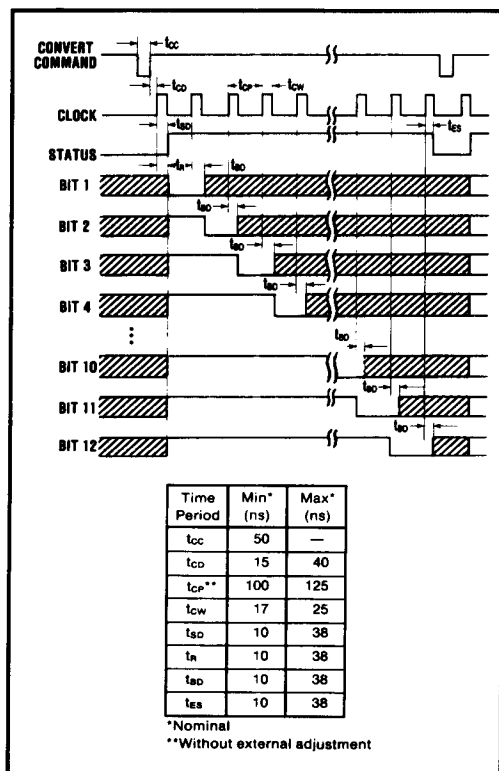

FIGURE 2. ADC803 Timing Diagram.
The timing diagram (Figure 2) shows the relationship between the convert command, clock and outputs. The digital output word is positive true logic for bipolar operation and complementary logic for unipolar operation.
The following are some important notes on the ADC803 timing. The times given are typical unless otherwise noted. Nominal maximum and minimum times are also given in Figure 2.
5. **Parallel Output Data:** The Successive Approximation Register (SAR) is reset 26ns after the leading edge of the first clock period in the conversion cycle. The MSB is set to logic "0" and all other bits are set to logic "1". The bits are determined in succession starting with the MSB, Bit 1, as shown in Figure 2. Each bit will be valid 26ns after its corresponding clock pulse.
directly. The table in Figure 2 indicates that the falling edge of STATUS may occur prior to bit 12 data becoming valid.